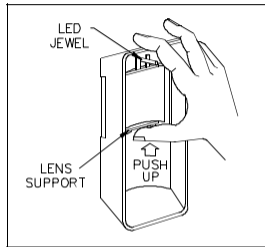

Fig. 3. Removing the
1. Push up on the lower edge of the Lens Support (see Fig. 3) until it is clear of its retainers, then pull out the Lens Support from the bottom. Be careful not to dislodge the LED jewel. **Note:** If the jewel pops out, re-insert it with the small index key positioned at the top.